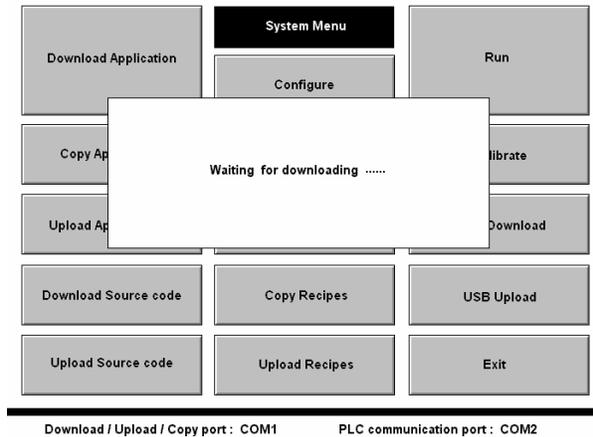

Figure D-22: the screen of “waiting for Downloading”
- 1-2. Be sure DIP-SW No 7 is “ on” then turn on the power on HMI and press the ”USB Download” button on system menu. The PWS3261 displays “waiting for Downloading” and is ready to receive a download. See Figure D-22.